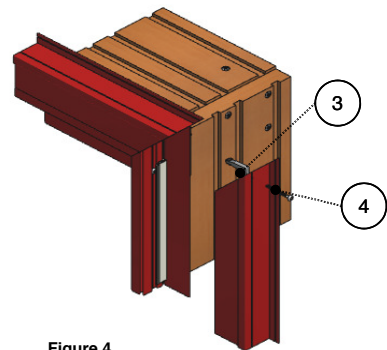

Figure 4
- Place corner key (3) into slot on end of brickmould and opposite end of head brickmould. (Figure 4)
- Apply a #6 x 3/4" panhead screw (4) through jamb brickmould into head brickmould. (Figure 4)